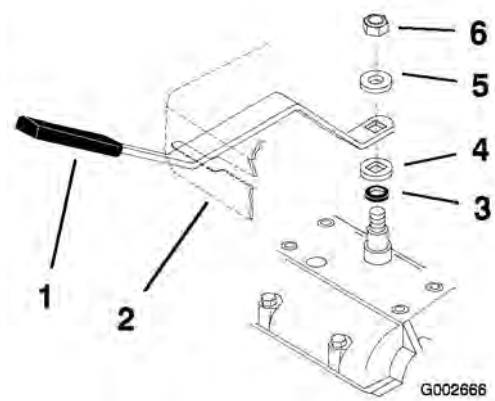

Figure 7
- Shift lever to second gear and check alignment of lever in slot of shift lever plate. The clearance between top and bottom of the shift lever should be equal (Figure 7).
- If clearance is not correct, remove lever and bend it slightly to adjust (Figure 7).
- Shift lever to neutral and check alignment of lever in slot of shift lever plate. The clearance on the sides of shift lever should be equal (Figure 7).